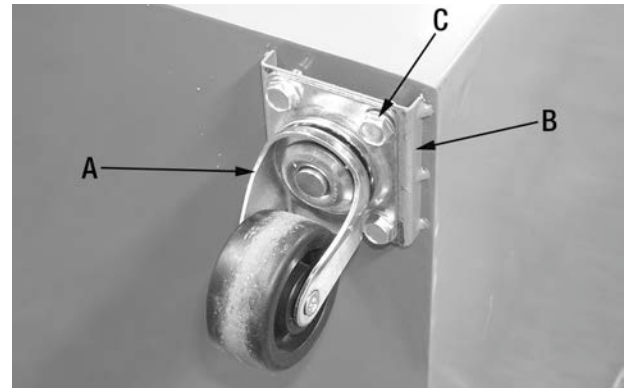

FIGURE 4
- 1) Place the Metal Dust Collector cabinet on its side, install the 4 caster wheels (A) Fig.4 to the bottom of the cabinet (B) using 4 flange head hex. bolts (C) to secure each caster wheel.